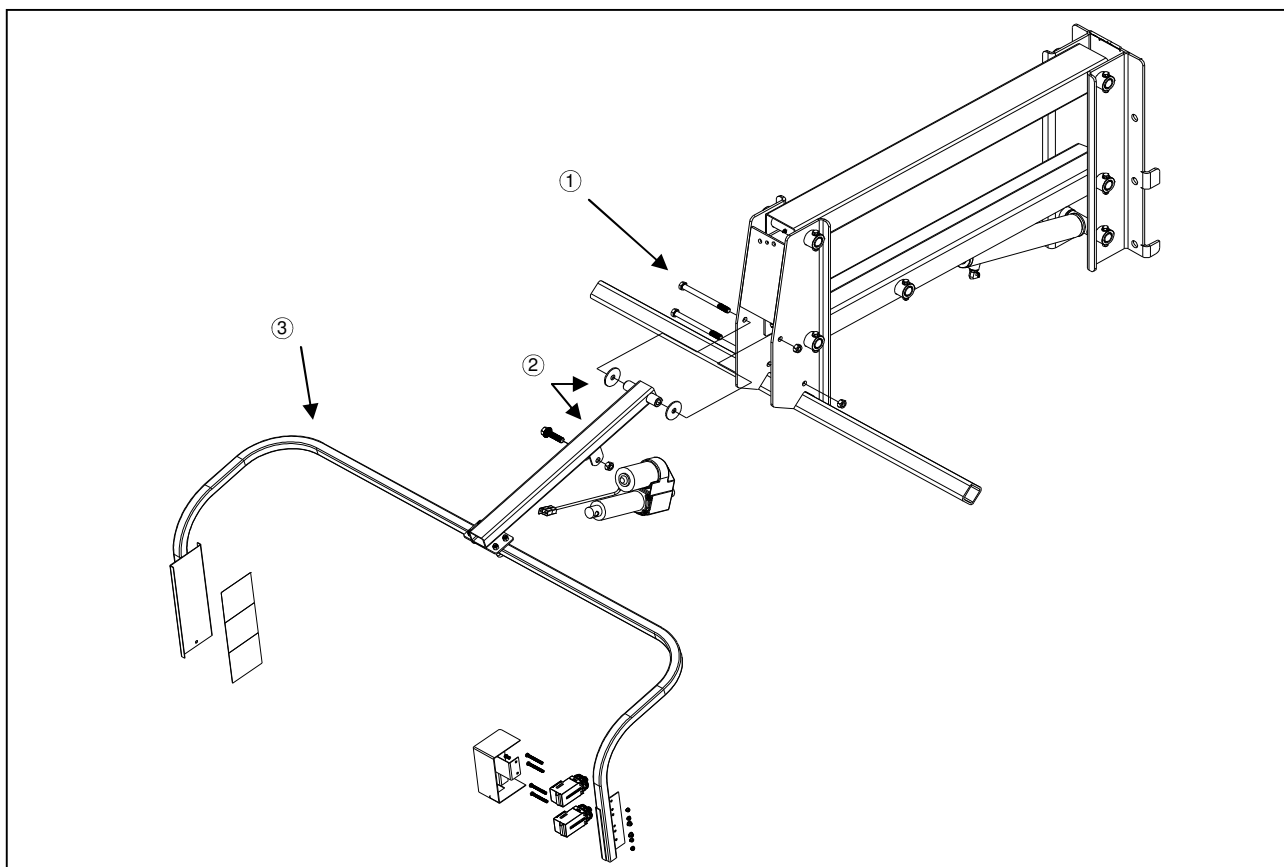

FIG 4.23
1. Install Tasselrol®/LS sensor mount support weldment with the two nylon washers (fig. 4.23, item 2) in the forward-most hole of the tool bar (fig. 4.23, item 1).
2. Install the Tasselrol®/LS sensor mount (fig. 4.23, item 3) to the sensor mount support weldment (fig. 4.23, item 2).
Over tightening of the sensor arm pivot mounting bolt (fig. 4.23, item 1) may cause the actuator to stall.